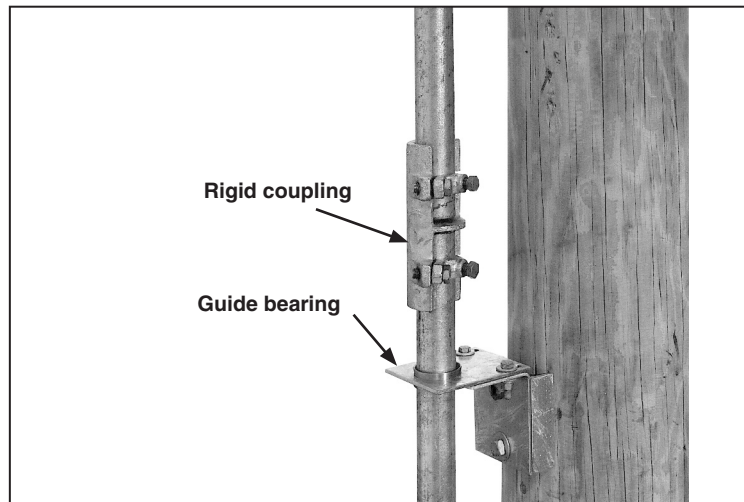

Figure 22. Install the guide bearing for each additional pipe section.
STEP 17. Install a guide bearing assembly with each additional vertical operating-pipe section, positioned in accordance with the dimension shown on the erection drawing. See Figure 22. Thrust bearings are not used with these additional guide bearing assemblies. Use rigid couplings to join these additional pipe sections. Make certain the cutting tips of the piercing set screws do not protrude through the body of the pipe-coupling clamp.